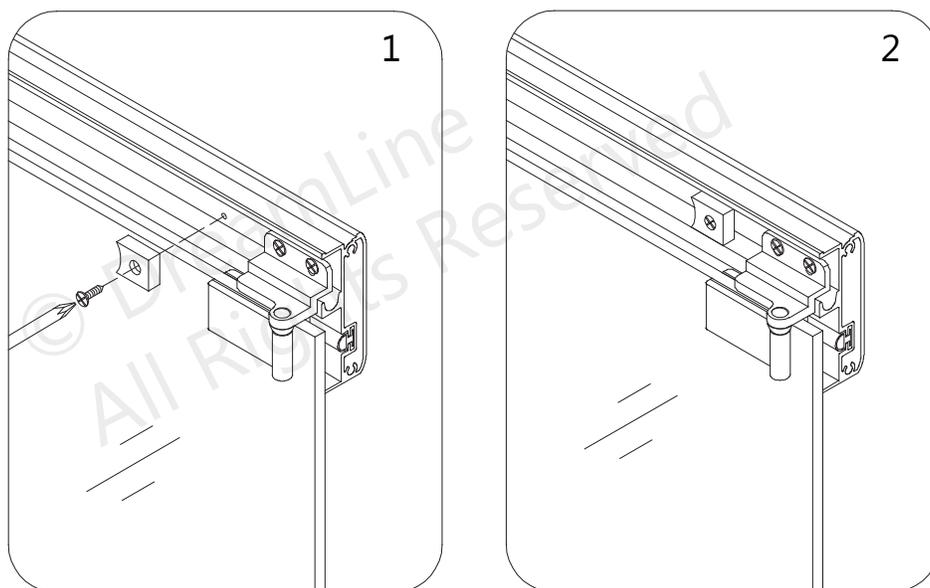

**Fig 8a**
**NOTE:** Make sure the **Vinyl Seal Insert (#14)** on the **Glass Profile (#02)** is on the inside of the shower (**Fig 8a.1**).
**(Fig 8a and 8b)**